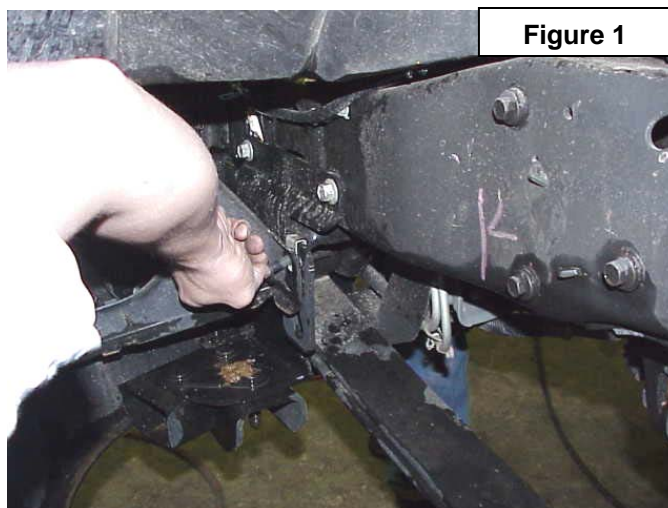

Figure 1
5. Remove the 4 nuts on the front bumper holding the front bumper to the frame using a 18mm socket and the rear bumper support bolts (1 each side) on the frame bracket as shown in **Figure 1** using a 15mm socket.